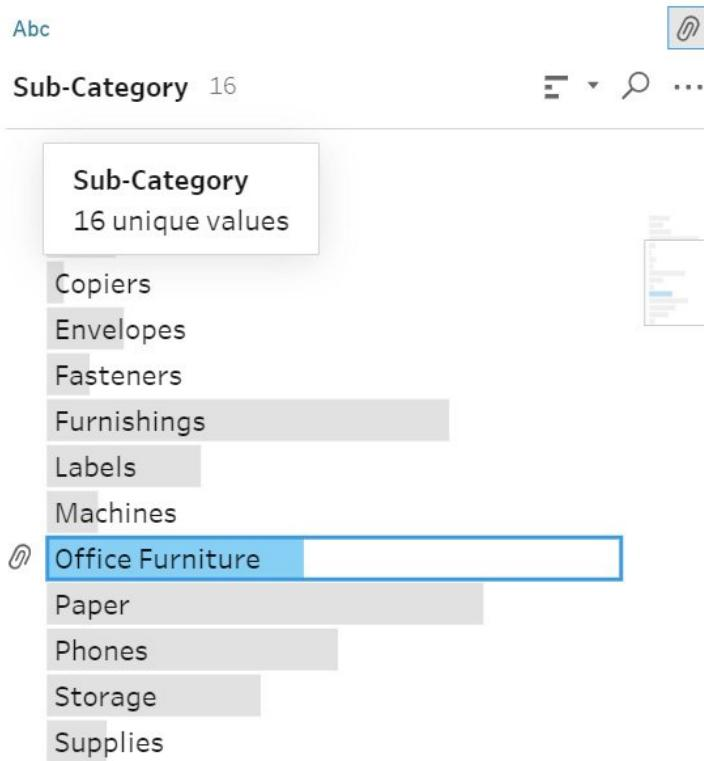

Figure 3.61: The grouped value replaces individual values in the Sub-Category column
1. Next, click on `Done` to add the group. The new group will be added, indicated by a paperclip icon (*Figure 3.61*).